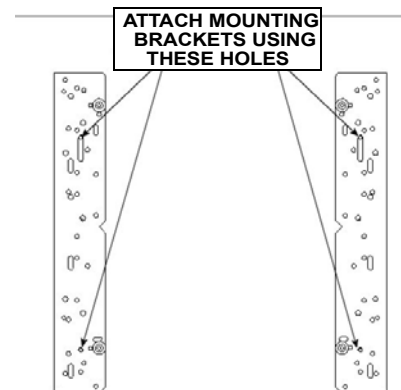

Figure 42. Bracket Attachment for Group 15
6. Using the hardware from parts bag F, attach the interface brackets to your Large Flat Panel display (see Figure 42). Do not overtighten the mounting screws.